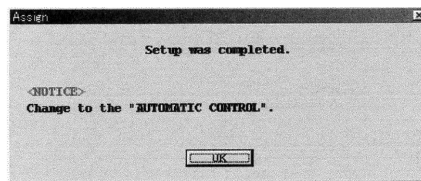

Fig.24
- ⑤ When the previous settings are replaced with the new settings just entered in response to clicking on "OK", a message box as shown in Fig. 24 appears. Clicking on "OK" button at this point completes the setup.